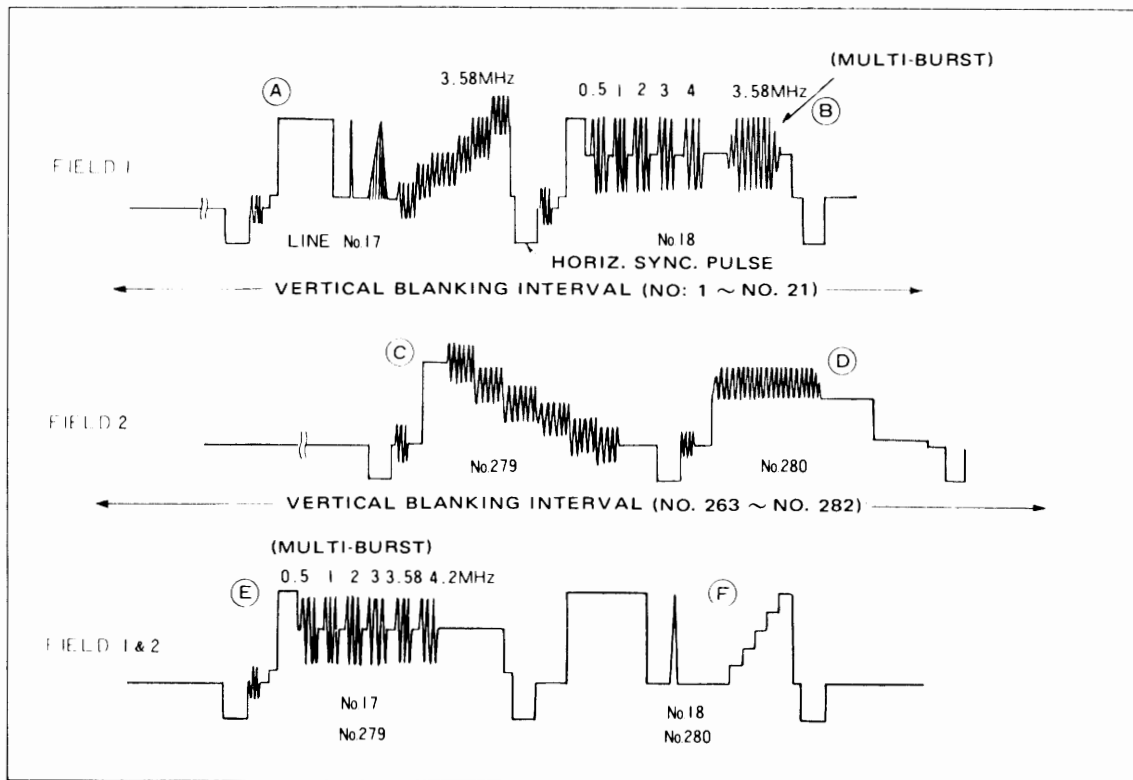
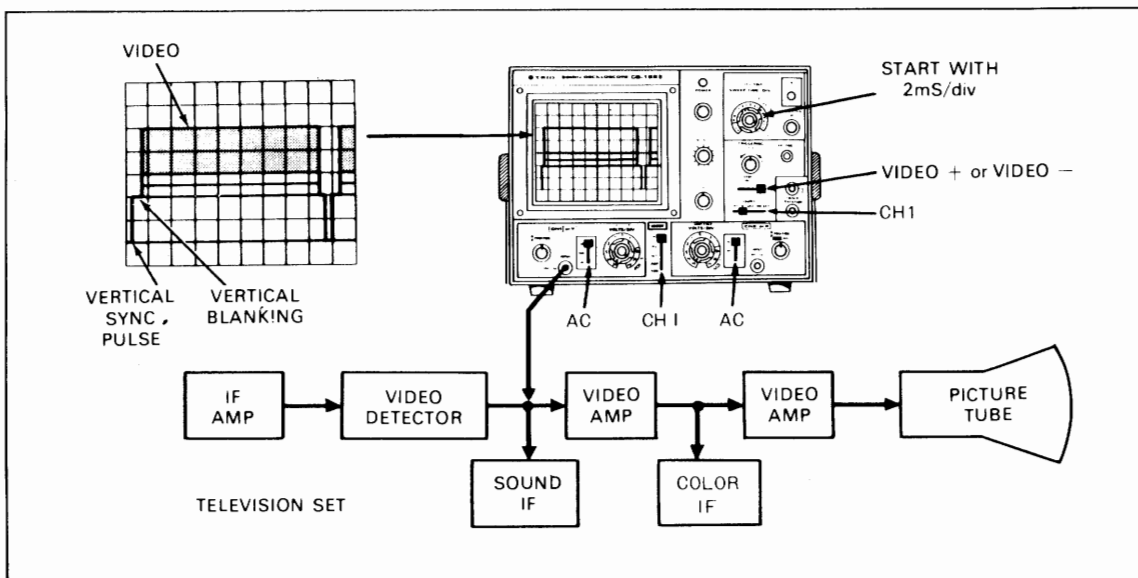

Fig. 16 VITS signal, Fields 1 and 2
Fig. 18 Set-up for viewing fields 1 and 2 of VITS information
Many of the television servicing procedures can be performed using single-trace operation. These are outlined later in the applications section covering single-trace operations. One of these procedures, viewing the VITS (vertical interval test signal), can be accomplished much more effectively using a dual-trace oscilloscope. As outlined in the single-trace applications section and as shown in **Fig. 16**, the information on the Field 1 and Field 2 vertical blanking interval pulse is different. This is shown in detail in **Fig. 16**. Also, because the oscilloscope sweep is synchronized to the vertical blanking interval waveform, the Field 1 and Field 2 waveforms are superimposed onto each other. With dual-trace operation, the signal information on each blanking pulse can be viewed separately without overlapping. **Fig. 18** indicates the oscil-
The transmitted VITS is precision sequence of a specific frequencies, amplitudes and waveshapes as shown in Fig. 16.
The first frame of VITS at the "B" section (line 18) in Fig. 16 begins with a white reference signal, followed by sine wave frequencies of 0.5 MHz, 1.0 MHz, 2 MHz, 3 MHz, 4 MHz and 3.58 MHz. This sequence of frequencies is called the "multi-burst".
With dual-trace oscilloscope operation, the signal information on each vertical blanking interval can be viewed separately without trace overlapping, although the information alternates with each field. **Fig. 18** indicates the oscilloscope control setting for viewing the alternate vertical blanking intervals.
2. The method shown in **Fig. 18** is used to obtain Field 2 vertical sign on CH1.
information will appear toward the right hand portion of the expanded waveform displays. The waveform information on each trace may appear as shown in Fig. 16. Because there is no provision for synchronizing the oscilloscope display to either of the two fields which comprise a complete vertical frame, it cannot be predicted which field display will appear on CH1 or CH2.
10. Pull the ◀ POSITION control outward to obtain an additional X10 magnification. Rotate the control in a counterclockwise direction moving the trace to the left until the expanded VITS information appears as shown in Fig. 16. Because of the low repetition rate and the high sweep speed combination, the brightness level of the signal displays will be reduced.